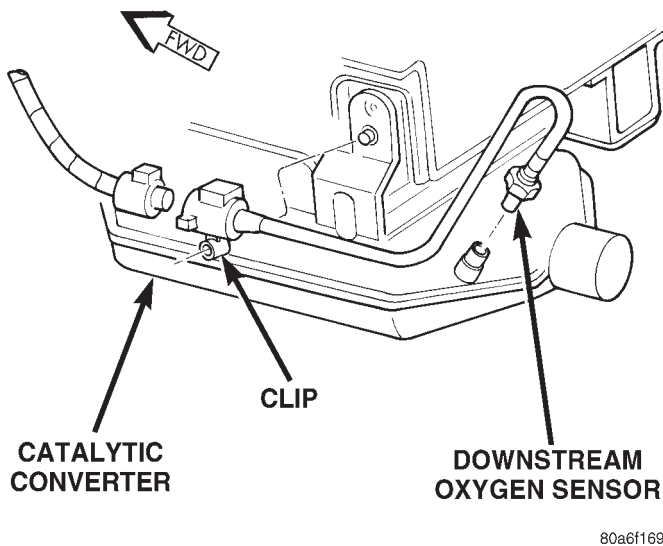
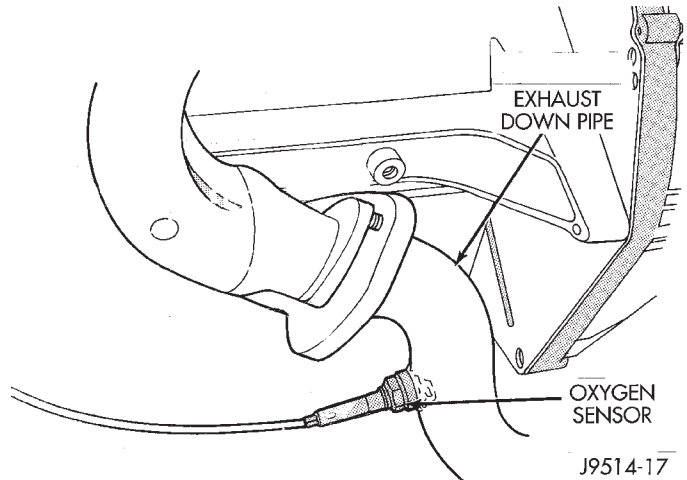

Fig. 81 Downstream Oxygen Sensor Location—AllEngines
Fig. 82 Upstream Oxygen Sensor Location—4.0LEngine
The upstream O2S sensor is located in the exhaust downpipe. The downstream sensor is located near outlet end of catalytic converter. Refer to (Fig. 80) or (Fig. 81).
- (1) Raise and support vehicle.
- (2) Downstream Sensor Only: Disconnect O2S wiring connector clip (Fig. 81) at body. Remove clip from O2S electrical connector and discard.
- (3) Disconnect O2S pigtail harness wire connector from main connector.
The upstream O2S sensor is located in the exhaust downpipe. The downstream sensor is located near outlet end of catalytic converter. Refer to (Fig. 82) or (Fig. 81).
(2) Downstream Sensor Only: Disconnect O2S wiring connector clip (Fig. 81) at body. Remove clip from O2S electrical connector and discard.
(3) Disconnect O2S pigtail harness wire connector from main connector.